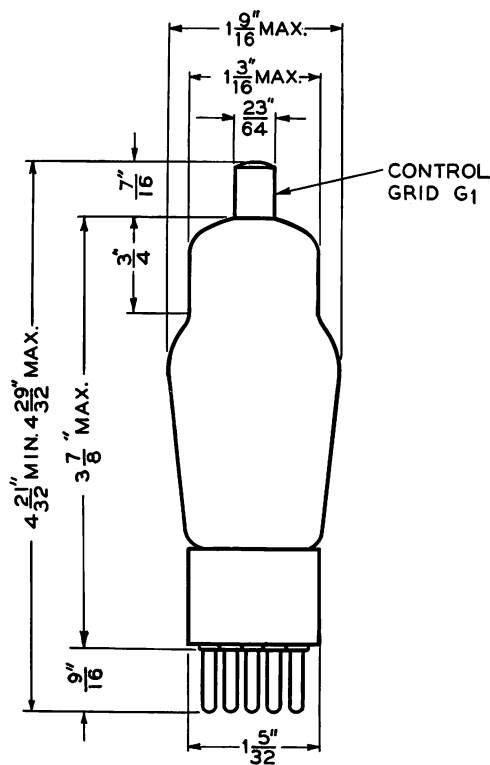

FIG. 1
**Dimensions and Connections—**Dimensions, outline diagrams of the tubes and bases, and the arrangement of the electrode connections to the base terminals are shown in Figures 1 and 2.